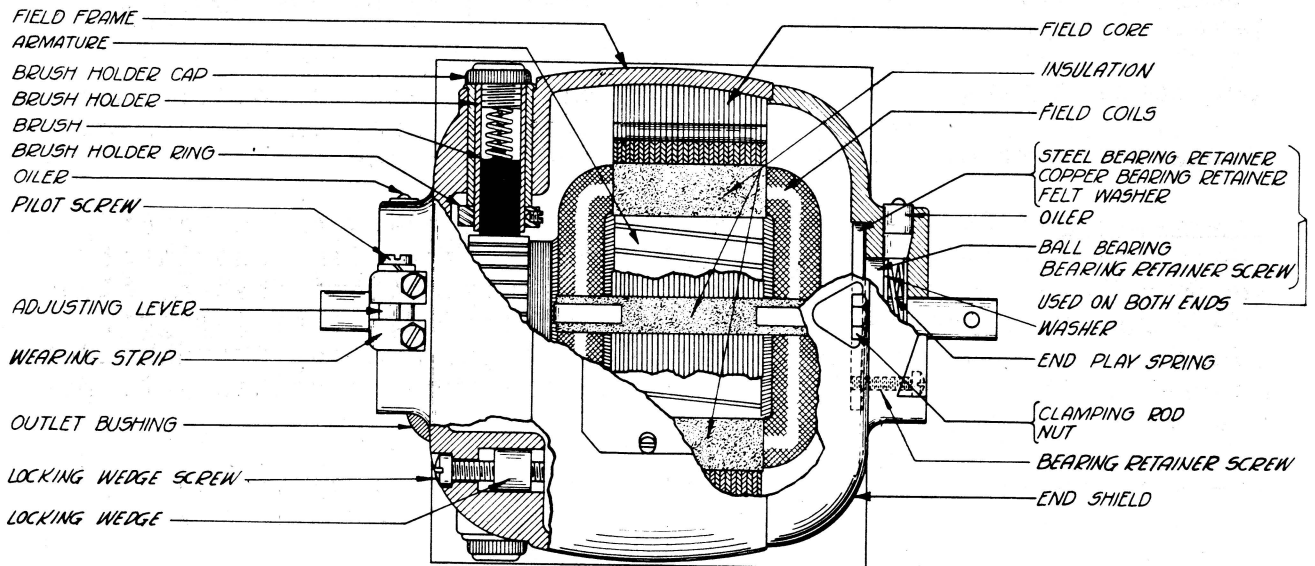

FIGURE 30
A.C. SERIES MOTOR AND D.C. SHUNT MOTOR MAINTENANCE, ADJUSTMENTS & LUBRICATION (FIG. 30)
The internal construction and assembly of these motors is shown in Figure 30.